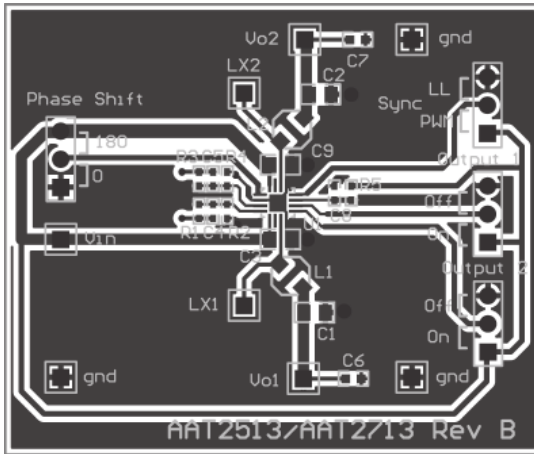

Figure 3: AAT2713 Evaluation Board Top Side.
1. Due to the pin placement of V_{IN} for both converters, proper decoupling is not possible with just one input capacitor. The input capacitors C3 and C9 should connect as closely as possible to the respective VIN and GND as shown in Figure 3.